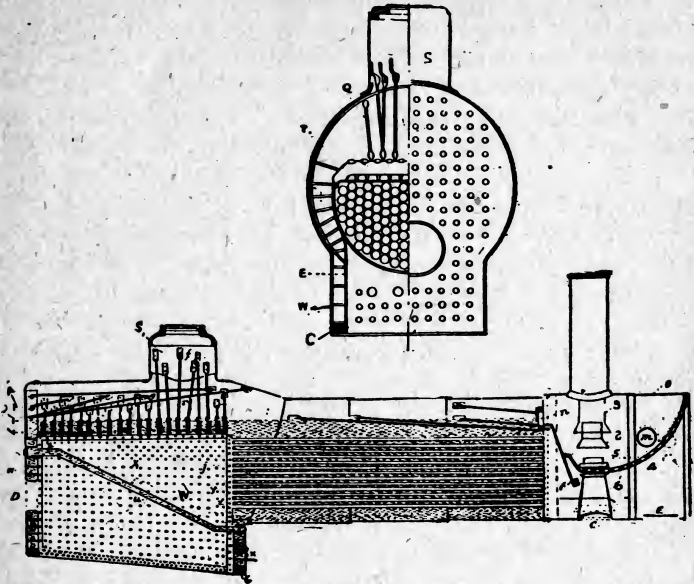

Fig. 2.
The fire-box of the modern locomotive is rectangular in shape (See Fig. 2.), and is constructed with five different sheets—two side sheets (E), crown sheet (U), back sheet (C), and flue sheet (Y).
Crown Bars—Are those that support the crown sheet (See T, Fig. 2). Sling stays are supports extending from the crown bars to the outside shell of the boiler (See Q, Fig. 2). The worst feature to the use of crown bars is the difficulty of keeping them clean, due
Adjusting the Petticoat Pipe.—By increasing the space between the nozzle and the petticoat pipe and between the base of the stack and the sleeve, a larger space is provided for the gases to pass from the front end. By decreasing the space it gives a directly opposite effect. Should the exhaust appear strongest on one side of the stack, it is an indication that the exhaust stand, petticoat pipe, sleeve or stack are not in line. (See Fig. 2.)